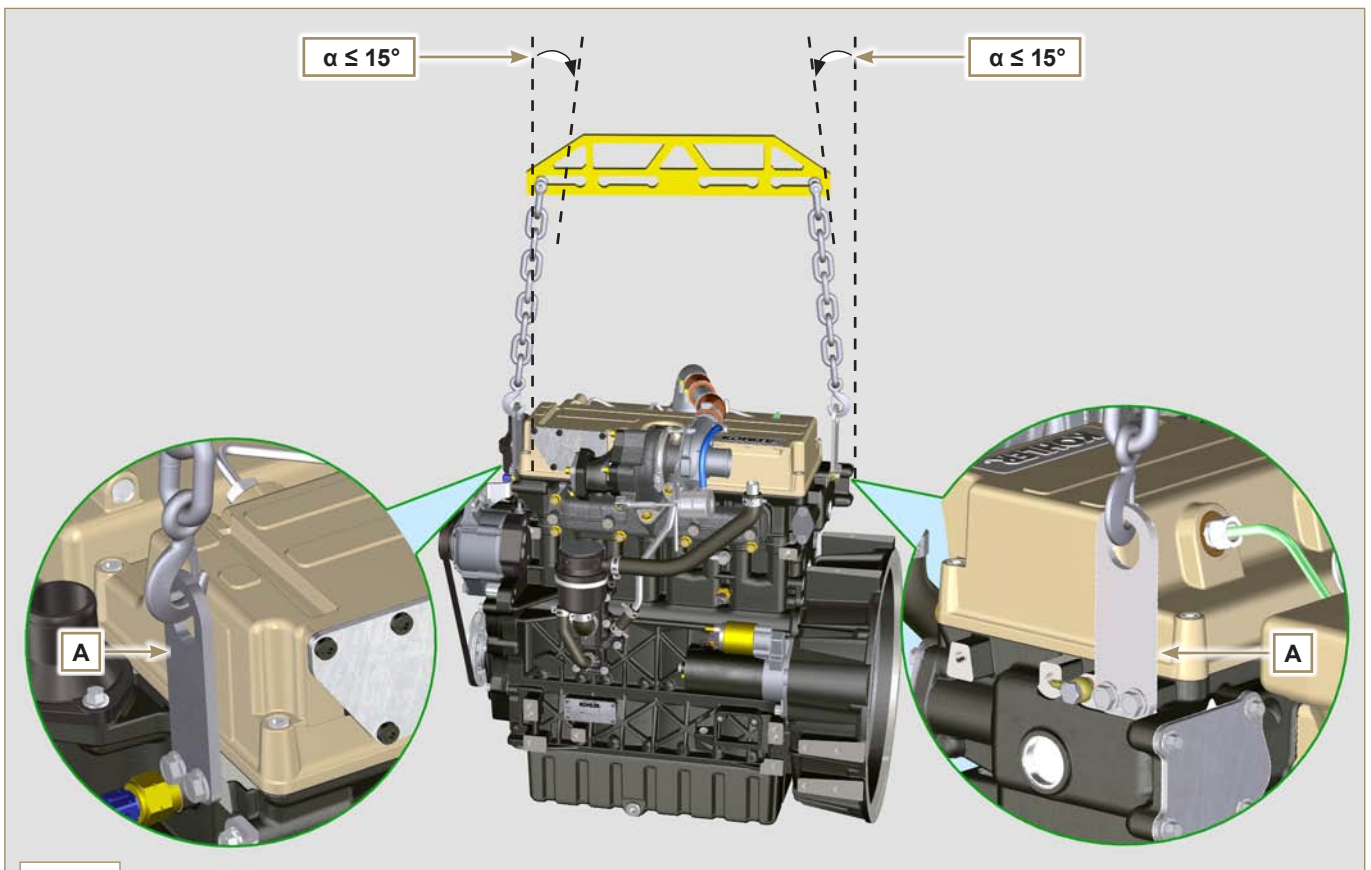

Fig. 3.1
- Only use the eyebolts **A** installed by **KOHLER** to move the engine (**Fig. 3.1**).